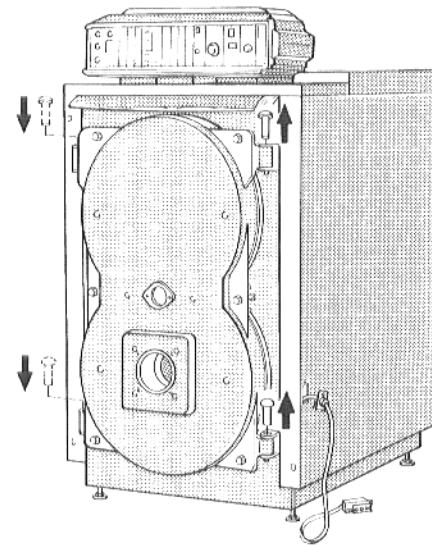

Fig. 15
- Push the hinge bolts upward and insert into the hinges on the other side (Fig. 15).
- Fasten the second rating plate and transparent pocket on the right-hand or left-hand side panel to suit local conditions (Fig. 15).
- Check whether the burner door is screwed on with six hexagonal head bolts (Fig. 15).
- Close the boiler door again and screw tight with the hexagonal head bolts (Fig. 15).